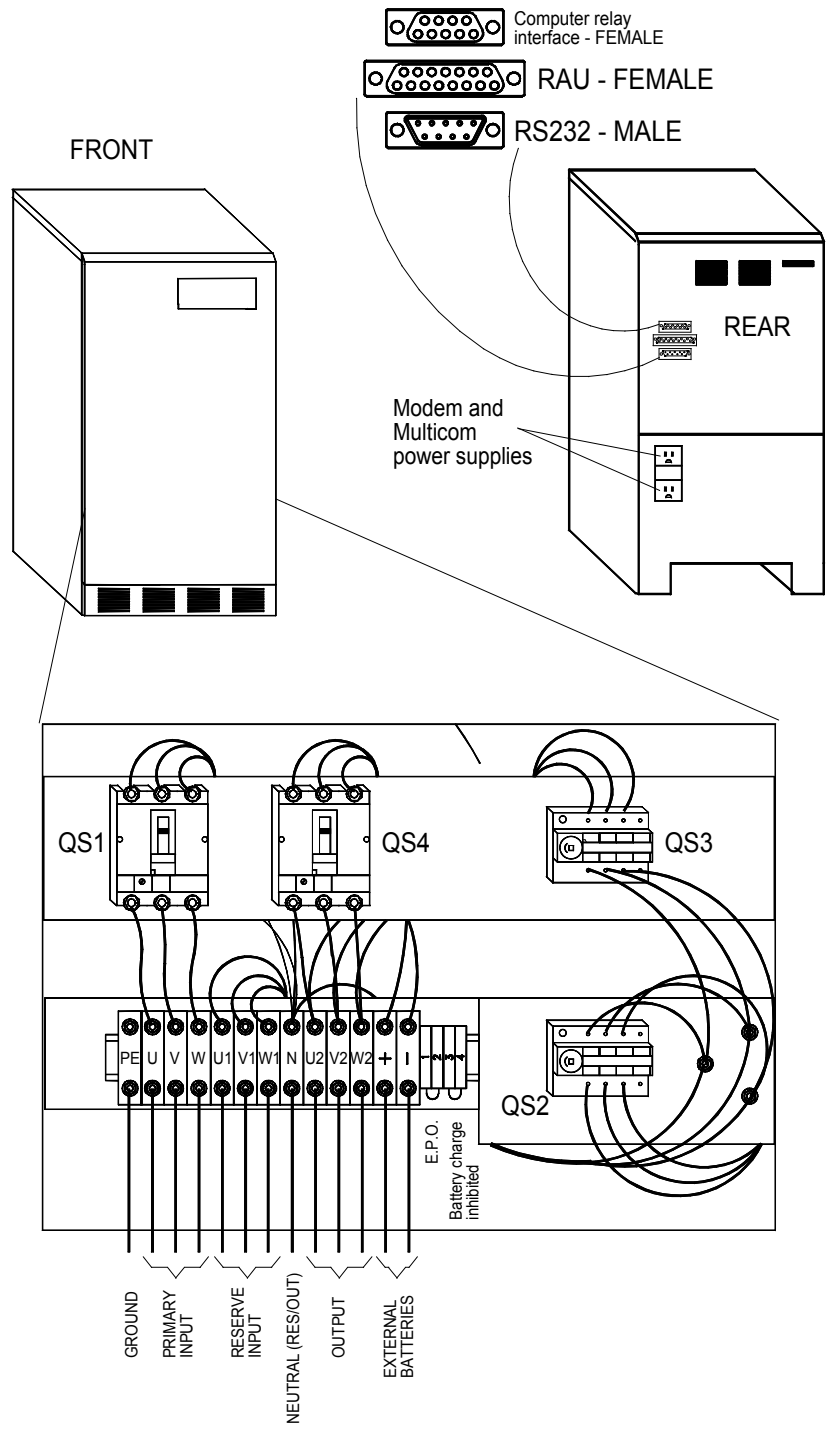

Figure 23 - 36 – 24/30/36kVA: Cable Connections
- c) This exposes the electrical terminal rail, see Figure 23
- e) This exposes the electrical terminal rail, see Figure 23